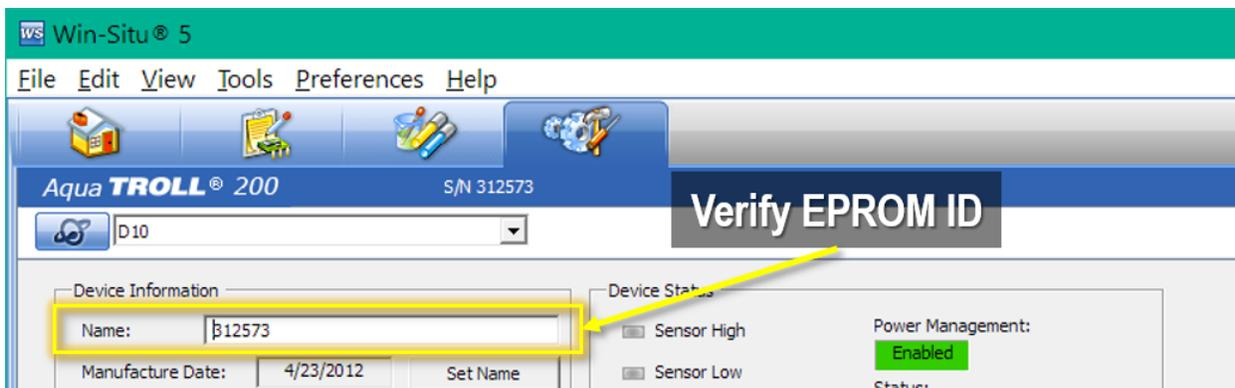

Figure 2. TROLL EPROM ID
**Important:** Verify the TROLL EPROM ID via the settings tab in the software (Figure 2). Ensure it matches what is in Maximo. If you ever use “Reset all devices”, it may wipe the EPROM ID from the TROLL and require reconfiguration.